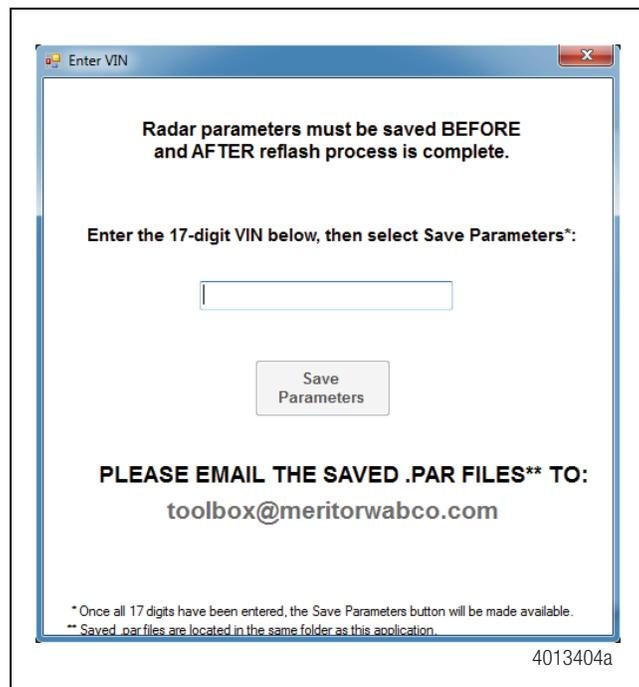

Figure 18
- 5. When continuing the procedure, the following screen will be displayed. Figure 18.